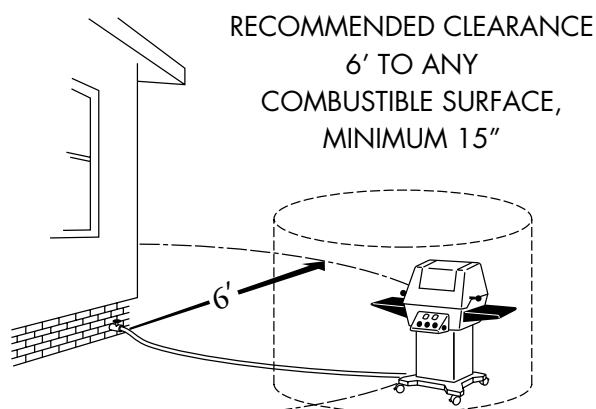

FIG. 12
CAUTION: Never operate your grill under overhangs, awnings or any covered area such as a gazebo or porch. When possible, adjust your grill's position to reduce the likelihood of wind blowing directly onto it. (See Fig. 12)
Limited portability can be afforded to the grill head when mounted on the portable cart. All grill heads mounted on this portable cart and cabinet model grills so equipped can be moved about 12 feet away from the main gas supply. Ducane recommends moving the grill at least six (6) feet from the gas supply and any combustible surfaces. (See Fig. 12)